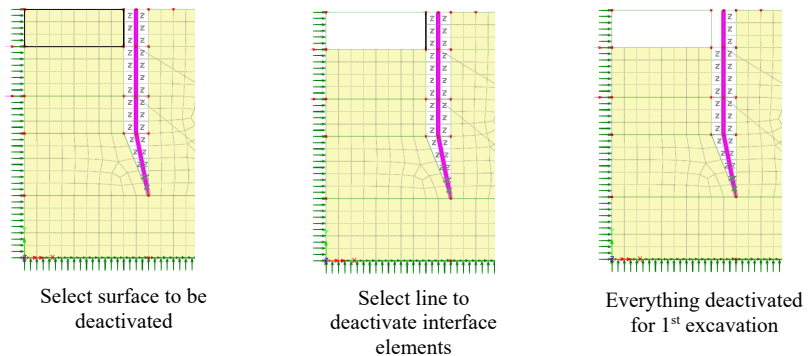

Figure 46: 1st Excavation
- Select the surface of the first excavation and assign the deactivation attribute **1st excavation** (figure 46).